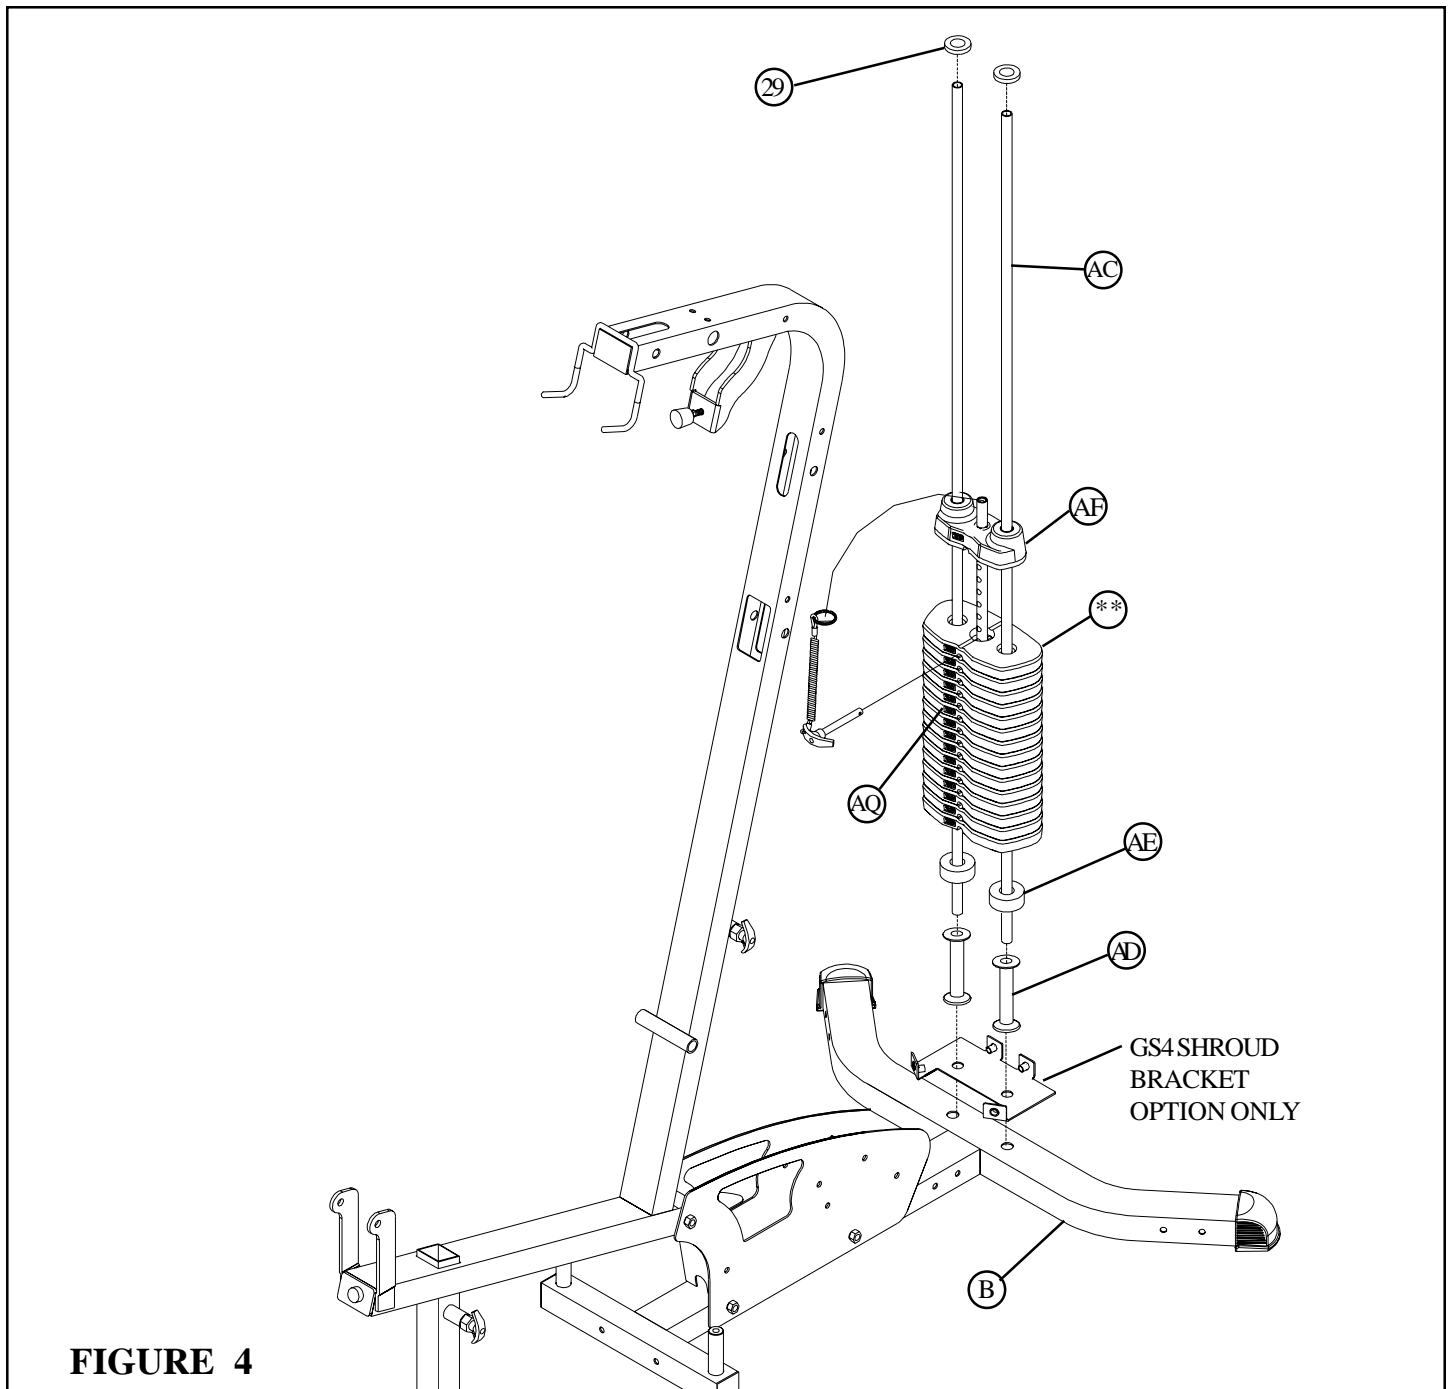

**FIGURE 2**
- CHECK THAT THE HEADPLATE AND WEIGHT PLATES ARE ASSEMBLED AS SHOWN IN FIGURES 2 & 3